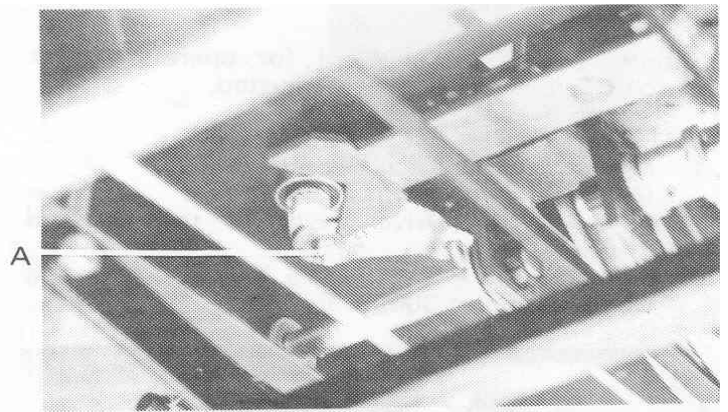

Fig. 22
1. Loosen locknut (A) Fig.22
3. Re-tighen locknuts (A), Fig.22